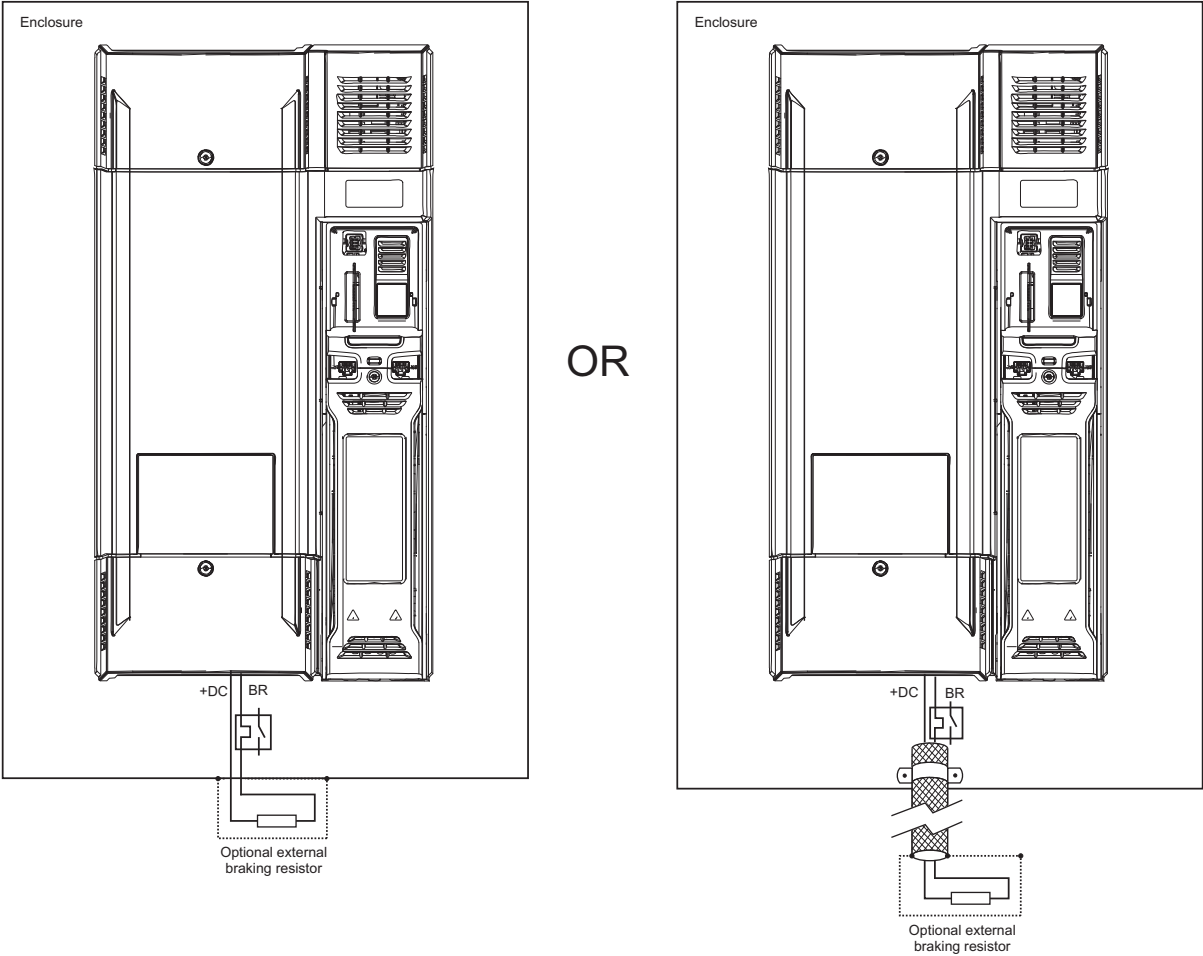

Figure 6: Screening of braking circuit
7. Wiring to the braking resistor should be shielded. The shield must be bonded to the back-plate using an un-insulated metal cable-clamp. It need only be connected at the drive end (fig.6).
8. If the braking resistor is outside the enclosure then it should be surrounded by an earthed metal shield (fig.6).